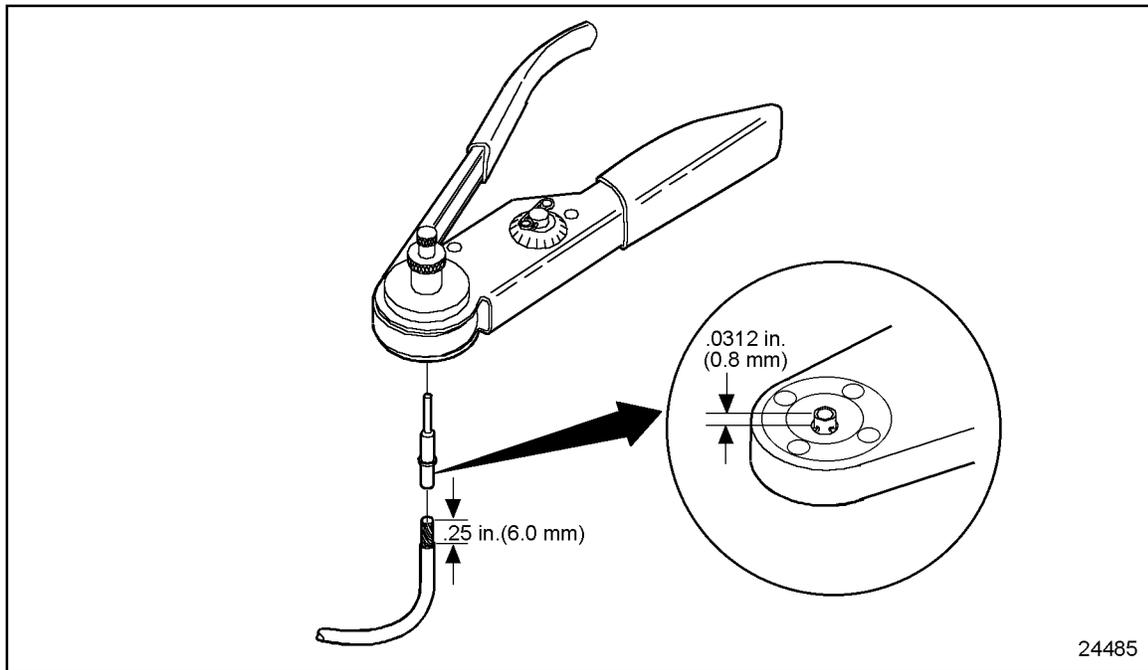

Figure 3-47 Setting Wire Gage Selector and Positioning the Contact
4. Position the contact so that the crimp barrel is 1/32 of an inch above the four indenters. See Figure 3-47. Crimp the cable.